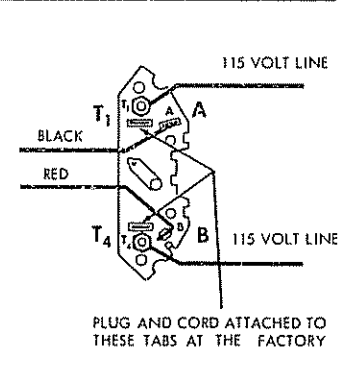

Figure 4
2. A 48-inch, 3-conductor (center ground wire) cord and plug assembly is attached at the factory, with the two power leads connected to the quick connect tabs adjacent to terminal posts "T1" and "T4". (See figure 4.) In event this cord is removed and the motor wired for a permanent installation, connect one power lead to terminal "T1" (or quick connect tab adjacent to it). Connect the other power lead to terminal "T4" (or quick connect tab adjacent to it).
- The Black and Red motor leads are connected to the quick connect tabs on terminal board. (See figure 4.)